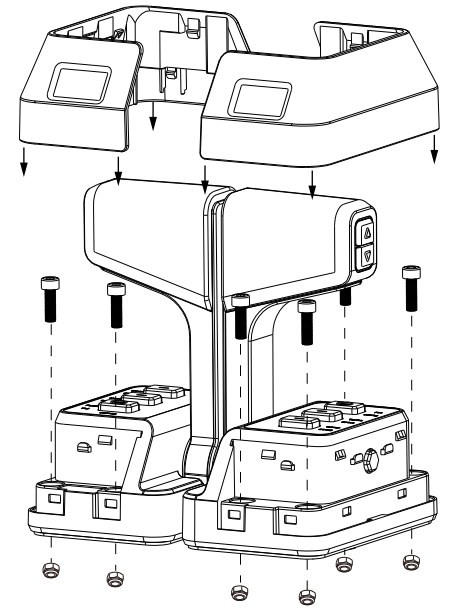

Figure 3-8
- Align the dual-throttle with the eight holes, and pay attention to the installation direction. Install the two throttles and tighten the bolts (figure 3-8).